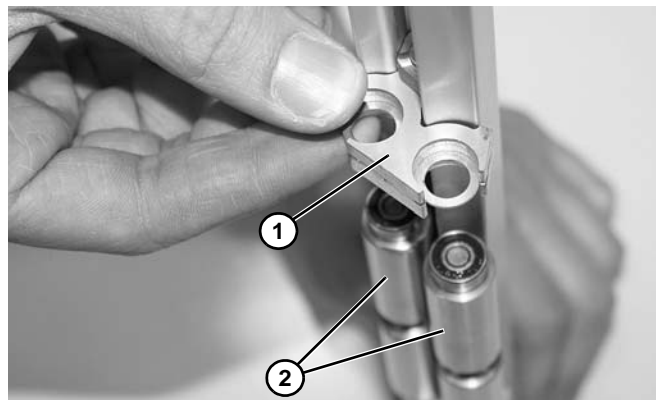

Figure 110
8. Remove bearing carrier (if installed) (Figure 110, item 1) and spindles (Figure 110, item 2).